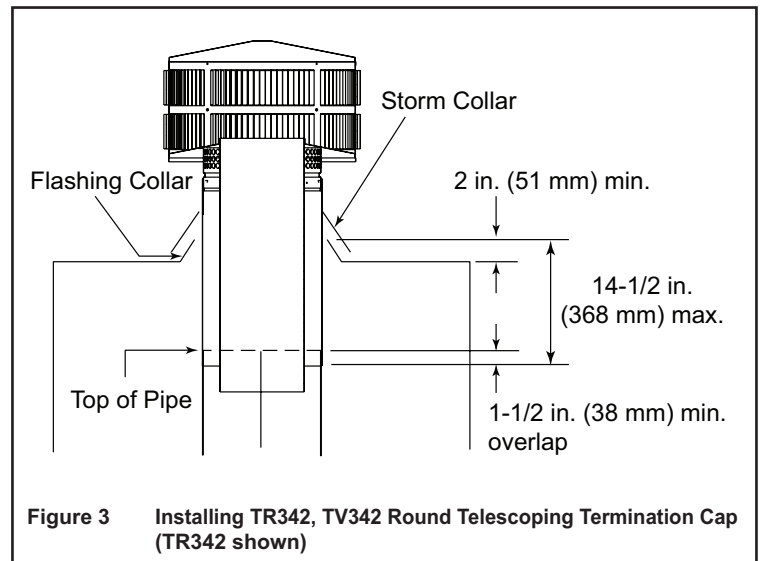

Figure 3 Installing TR342, TV342 Round Telescoping Termination Cap (TR342 shown)
- The uppermost chimney section must terminate no more than 14-1/2 in. (368 mm) below the top of the flashing collar on the chase top. See Figure 3 for additional details.